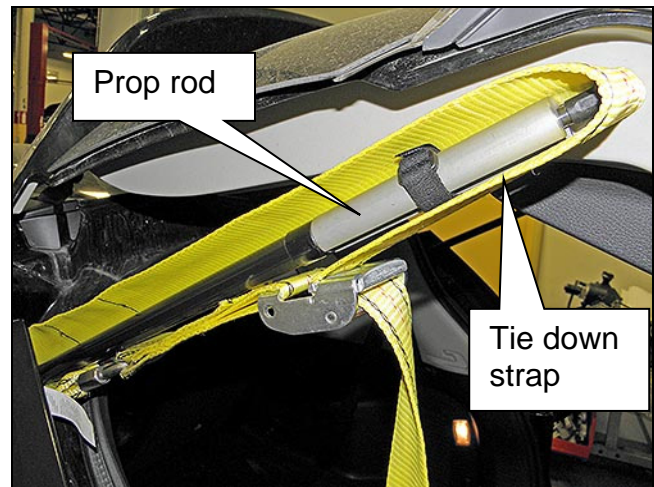

Figure 4
5. Hold the lift gate stay in place with a tie down strap as shown in Figure 4.
NOTE: The strap is looped around the bottom hinge (not shown) of the lift gate stay in a similar manner to the top as shown in Figure 4.